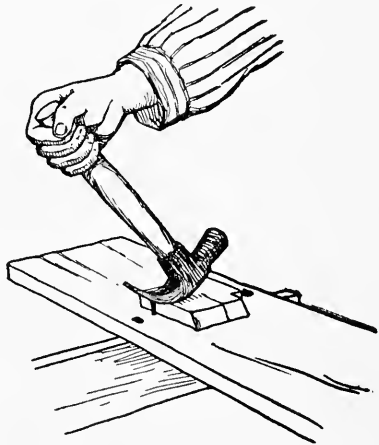

FIG. 30.—Withdrawing Nails.
**Withdrawing Nails**, especially nails whose heads are too small to be gripped with a claw hammer; but for removing large nails a stronger leverage is necessary. This can be obtained as shown in Fig. 30. The head of the nail is gripped in the claw of the hammer and a block of wood placed beneath the head. The handle of the hammer is then pulled toward you, as shown in the illustration. The block, besides increasing the leverage, prevents the hammer-head from injuring the surface of your work, and makes it possible to withdraw the nail in a fairly straight condition.